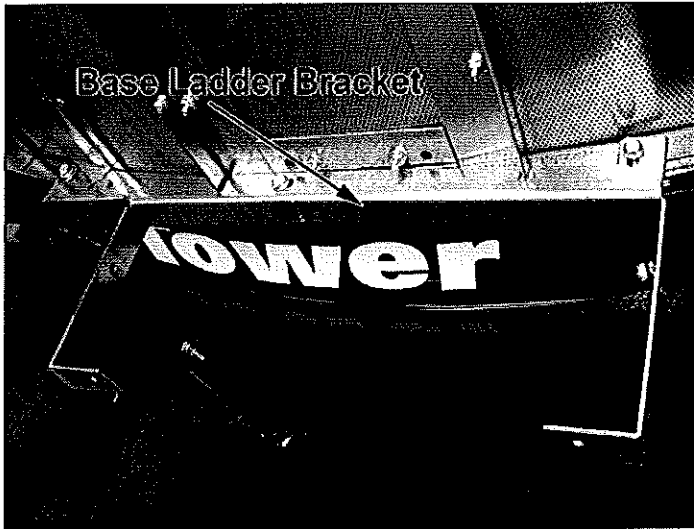

Figure 7
- Install (1) base ladder bracket to the base section by lining the right side up with the Channel Splice found on the base section. Bolt the Base Ladder Bracket using 5/16 x 3/4" Grade 5 hex bolts and tighten using whiz locknuts. See Figures 7 & 8.